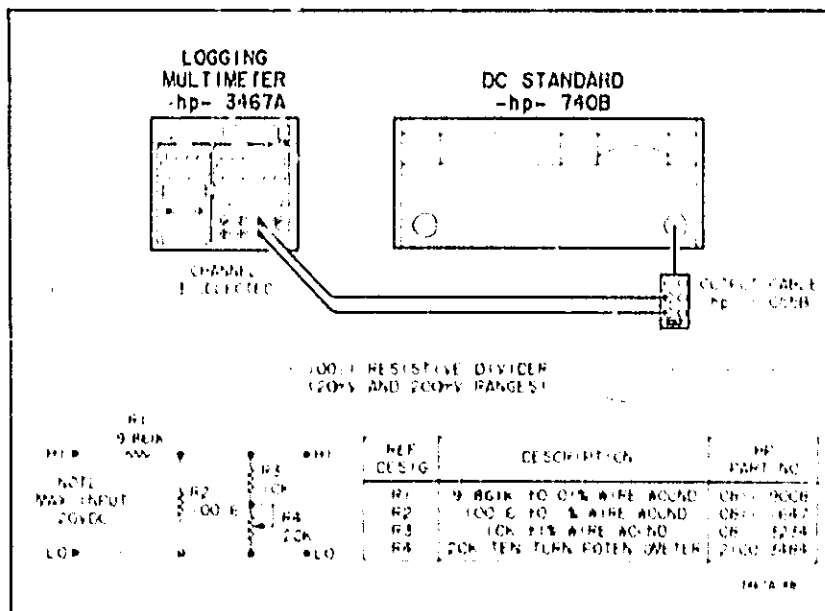

Figure 5-2. DC Voltmeter Accuracy Test.
- f. Connect the DC standard to the measurement leads as shown in Figure 5-2. The 20 mV and 200 mV ranges require a precision voltage-divider set-up.